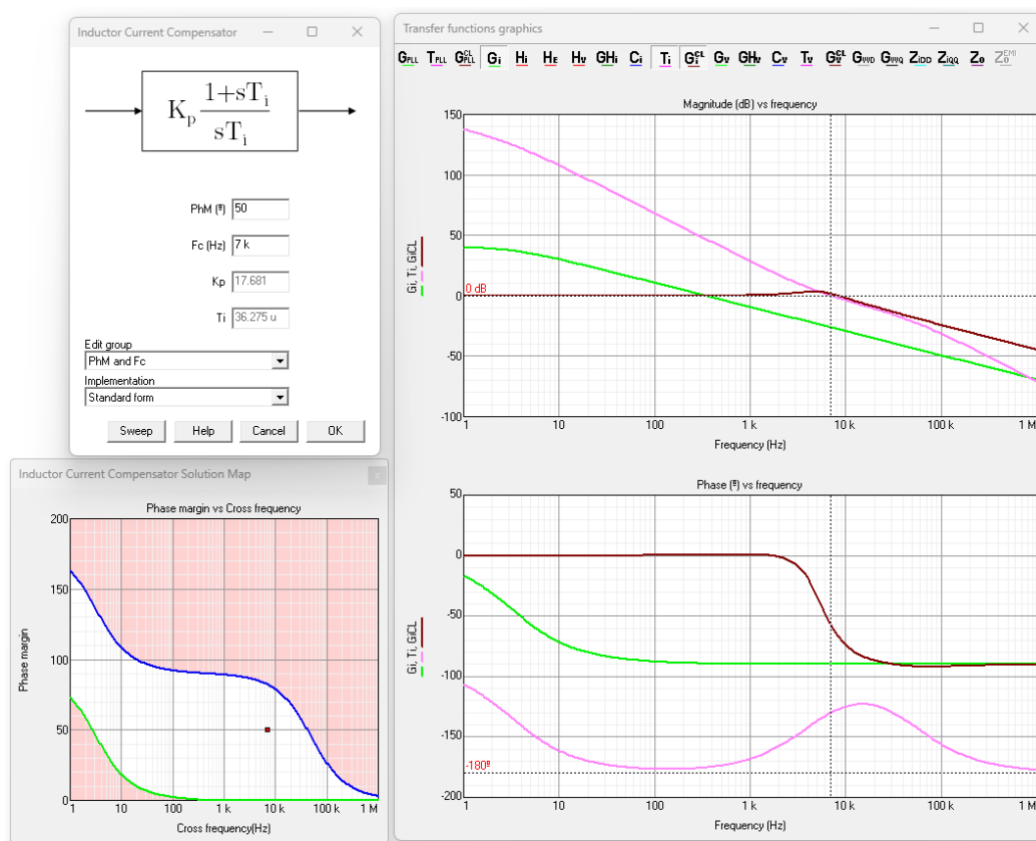

Figure 13: Inner current loop design
10. To design the inner current loop, it is recommended to open the current compensator window by clicking on the button **C_i**. Additionally, we open the solution map by clicking on the button **SM**. Finally, we open the bode diagrams by clicking on the button **B**. See Figure 13.